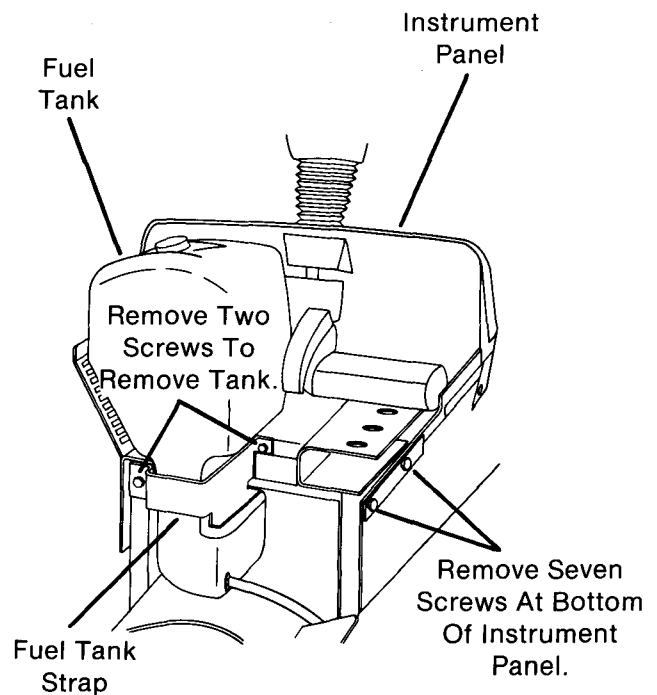

FIG. 14
- I. Remove seven (7) thread forming screws at bottom of instrument panel holding panel to both sides of main frame. (Fig. 14)
- J. Remove two thread forming screws through tank strap securing fuel tank to main frame. (Fig. 14)